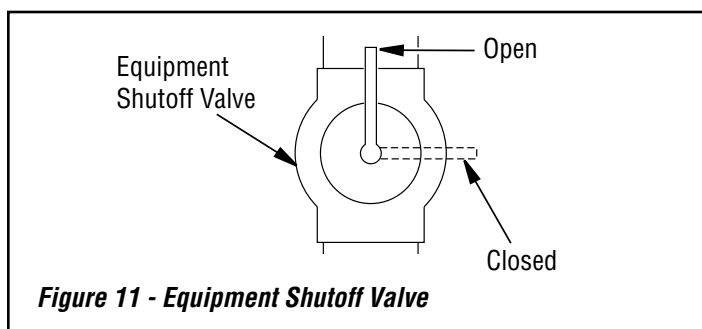

Figure 11 - Equipment Shutoff Valve
1. Close equipment shutoff valve (*see Figure 11*).
1. Open equipment shutoff valve (*see Figure 11*).